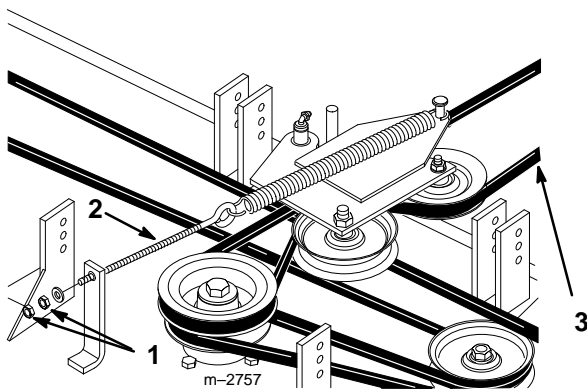

Figure 24
2. Loosen the jam nuts on the drive belt tension spring eyebolt (Fig. 24).